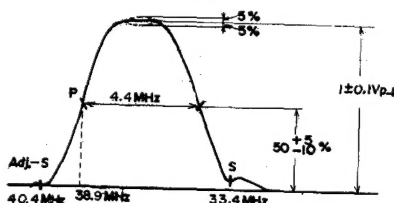

Figure 10
8. Adjust the transformers T101 (in VHF Tuner) and T201 to obtain the waveform shown in figure 10.
9. If not obtain the waveform shown in figure 10, readjust the coils (L205 and L206) and the transformers (T101 and T201).